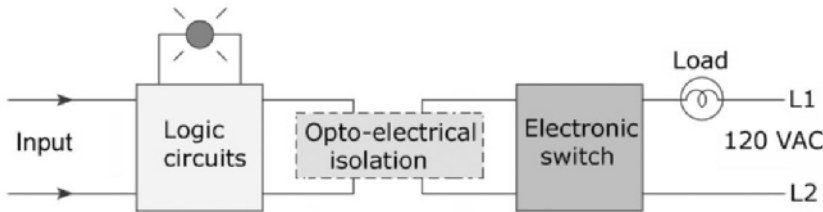

Figure 2-4 Block diagram for question 25.
25. For the block diagram of the output module shown in Figure 2-4,